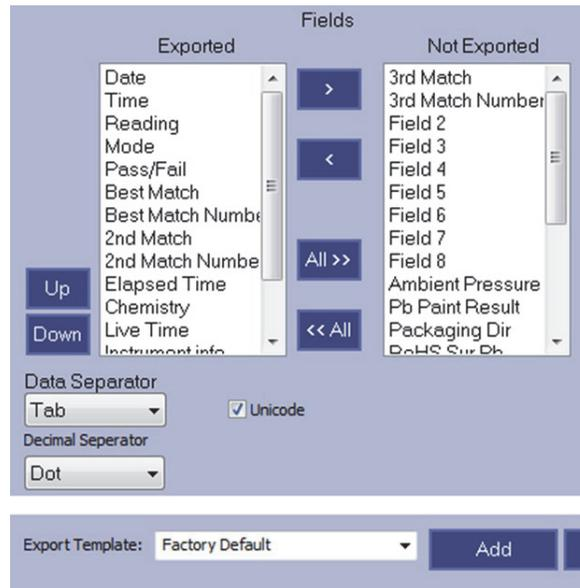

Figure 1-31 The Fields pane
3. In the **Fields** box, select parameters in the **Not Exported** list, and then click the left arrow () to move them to the **Exported** list (see Figure 1-31 on page 25). Alternatively, move parameters from the **Exported** list to the **Not Exported** list using the right arrow (). Table 3 on page 25 lists the parameters that can be exported.